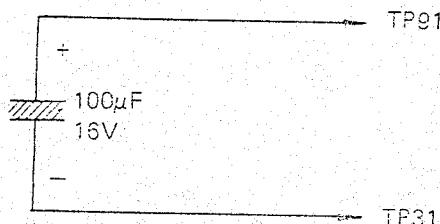

Fig. 5
- (1) Receive monoscopic signal.
- (2) Provide a $100\mu F$ capacitor (or equivalent) across TP31 and +B line side (TP91). Connection as shown in Fig. 5. At this time V. hold control must be set approx. 50 Hz (in sync.) position.
- (3) Adjust T501 to hold the picture at the center or moves slowly toward left or right direction.